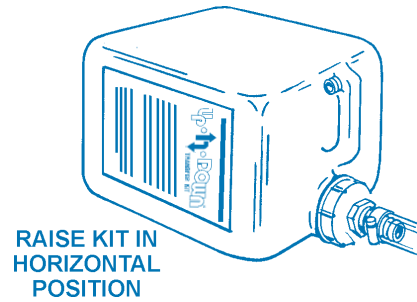

FIGURE 7
- 13. Raise the Up-N-Down Transfer Kit in a horizontal position facing the heater high enough above the drain valve opening so that the UN-LIME empties into the heater. Upon contact with the lime scale deposits, foaming should be evident by sight and/or sound. (Figure 7)